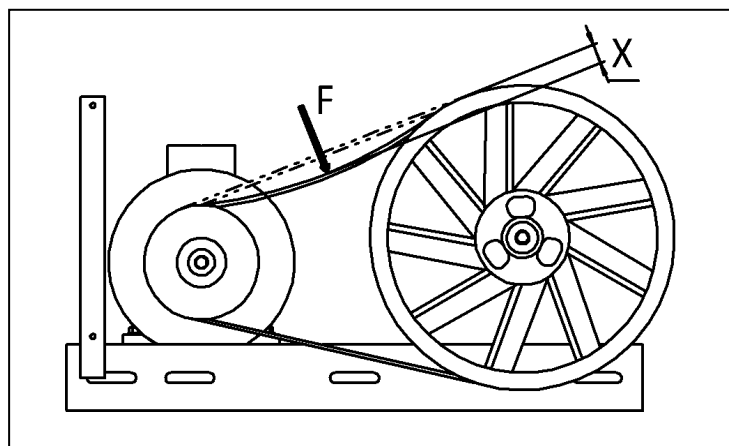

Figure 4
- 3 Apply Force F with 30 - 40 N perpendicular to belt centre (**Figure 4**).
- 4 Measure movement X (**Figure 4**). Belt deflection X should be 5- 6 mm.